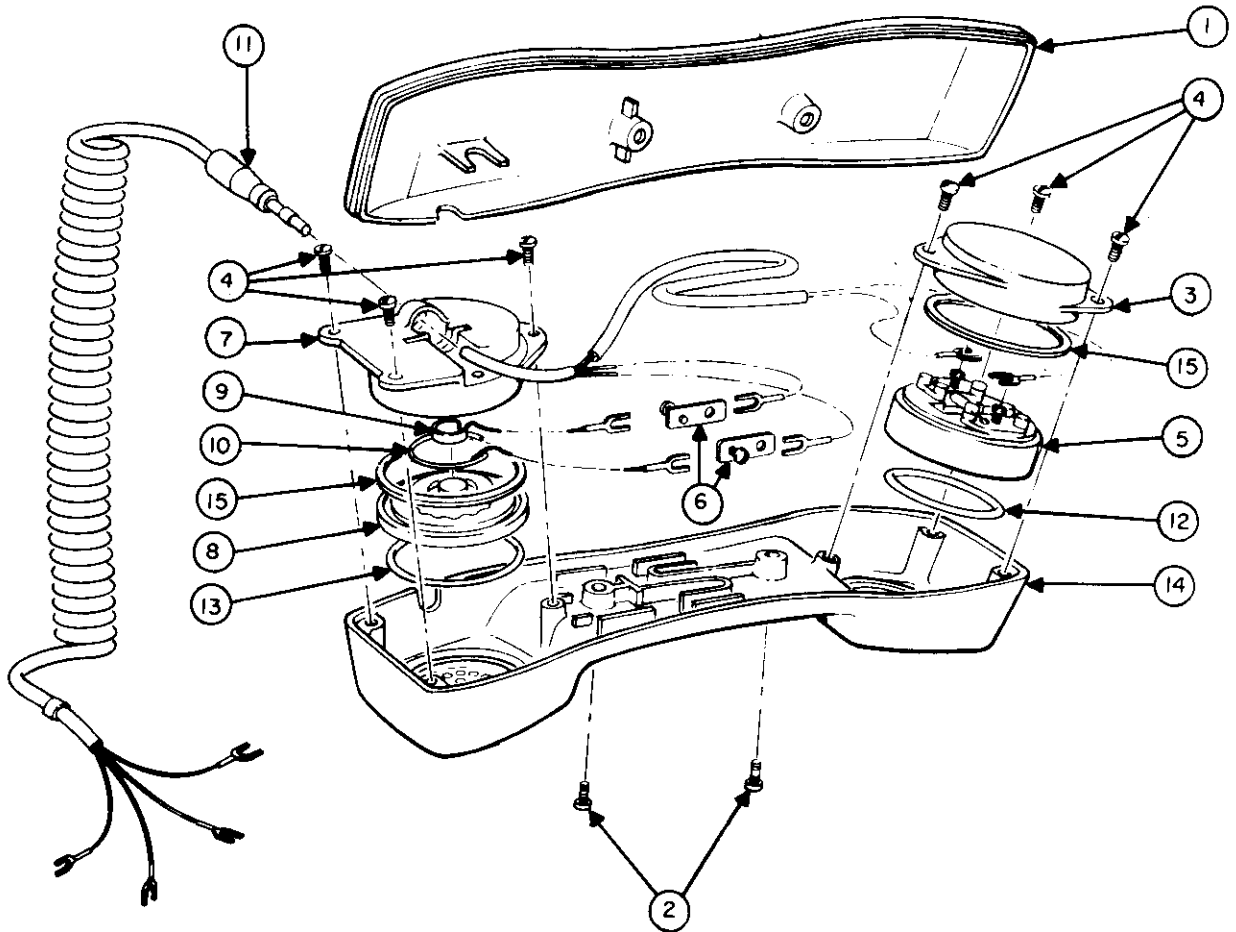

Figure 12. Chestphone Handset.
6.06 To replace the handset cord, proceed as follows (Figure 12):